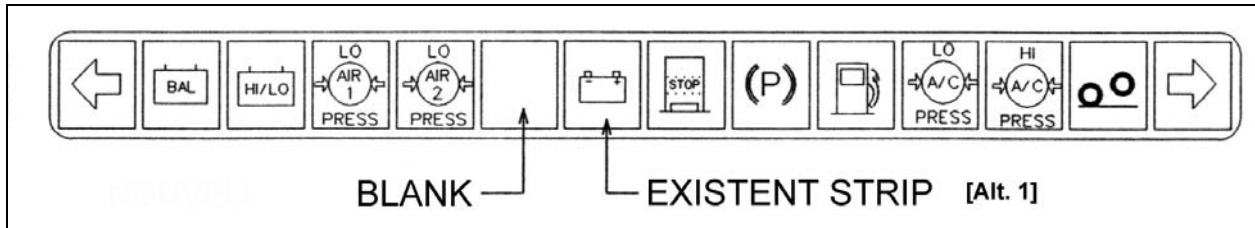

FIGURE 11: TELLTALE LIGHT MODULE
2. The blank telltale identified in figure 11 will serve to indicate that an alternator is not charging. Unfortunately, the film supplied cannot be inserted in this type of telltale module. Identify the blank with a homemade label applied nearby [Alt. 2];